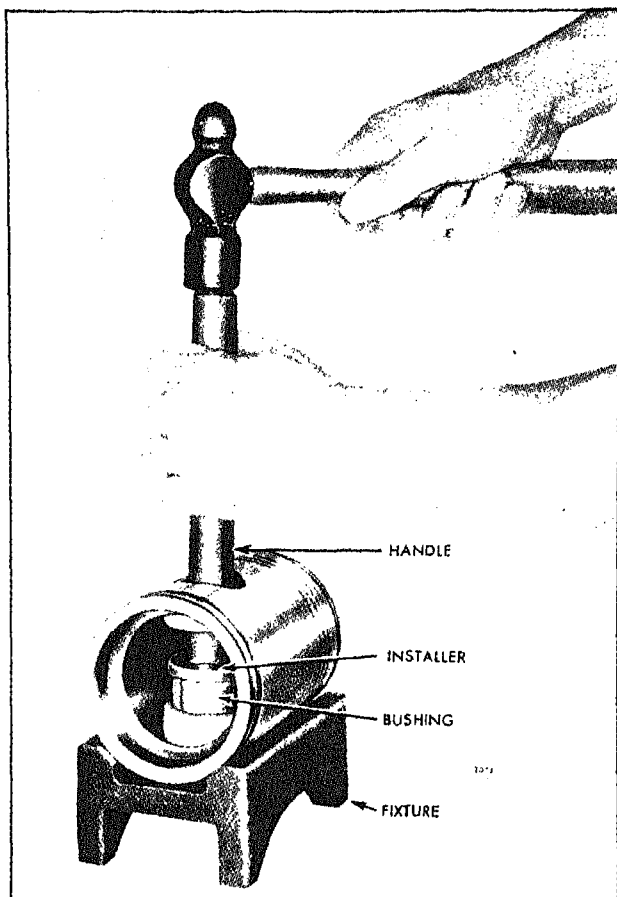

Fig. 5 - Removing or Installing Piston Pin Bushings
2. Drive each bushing from the piston with the bushing remover J 4972-4 and handle J 1513-2 (Fig. 5).